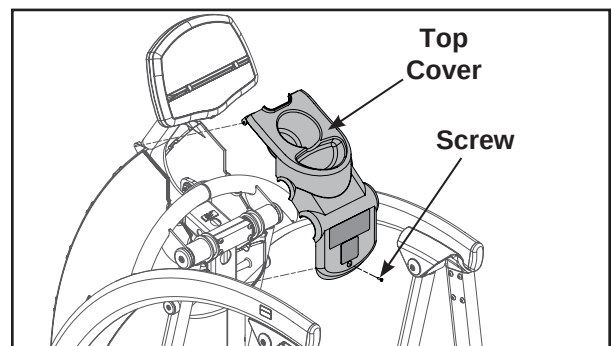

Figure 3
- A. Place the S-links in position on the handles. See Figure 3.
- B. Place a drop of Loctite (R) to the threads of each BHSCS removed in step 5A and another drop inside the shaft into where each BHSCS will tightened.
- C. Install the two nylon washers, two end caps and two BHSCS/loctite as shown Figure 3.
- A. Using a Phillips screwdriver, remove the screw securing the top cover. See Figure 3.
- A. Place the top cover in position. See Figure 3.